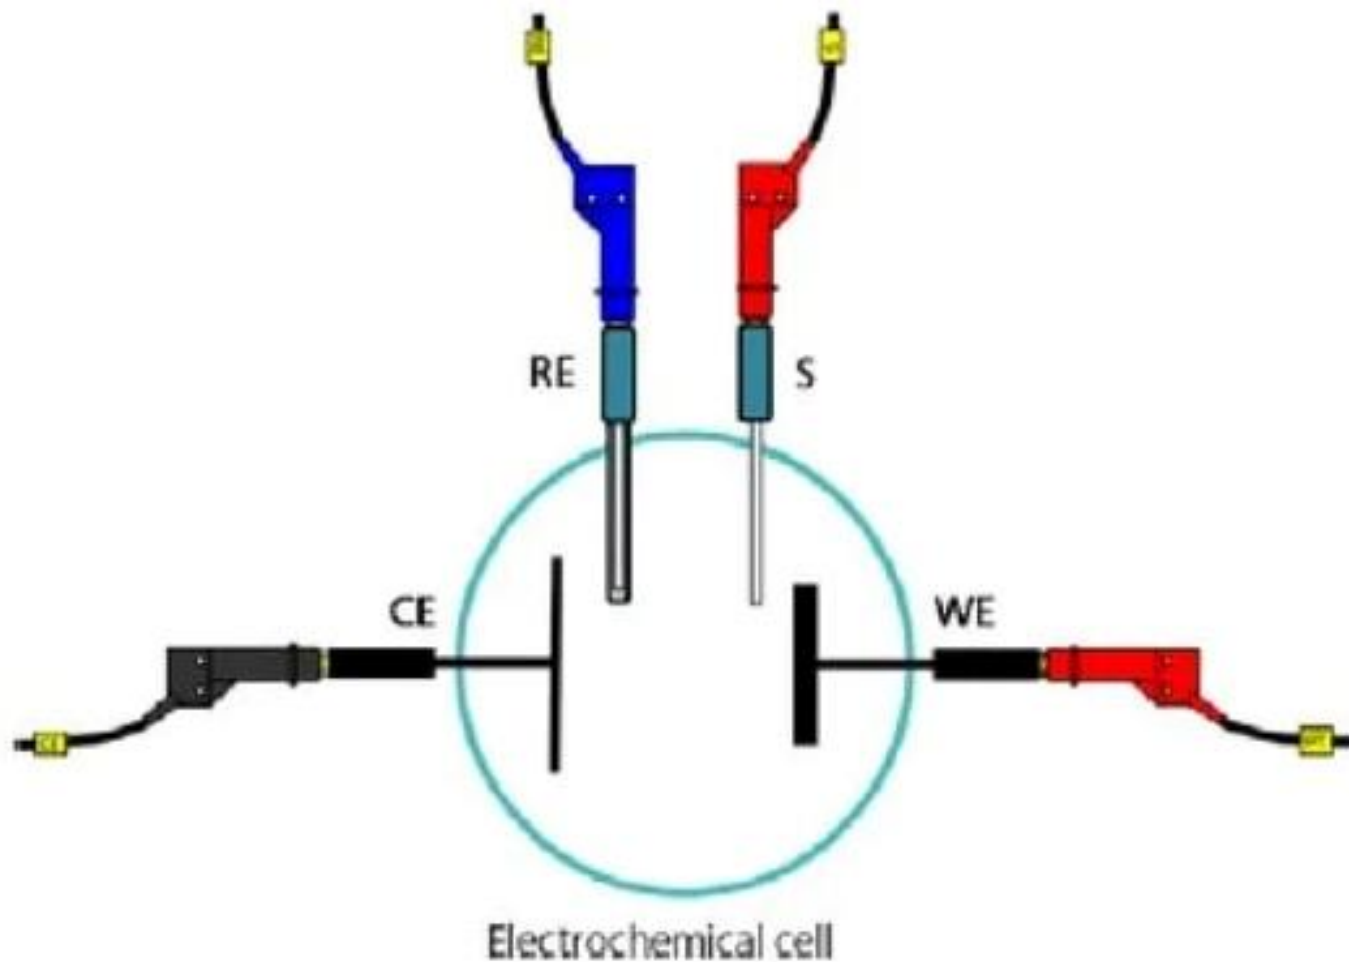

Figure 6 – Schematic view of the 4 electrode setup
- The four-electrode cell setup (see Figure 6) is used for applications where the potential difference (between RE and S) which occurs as a result of a passage of a current across a well defined interface (between WE and CE) needs to be measured.